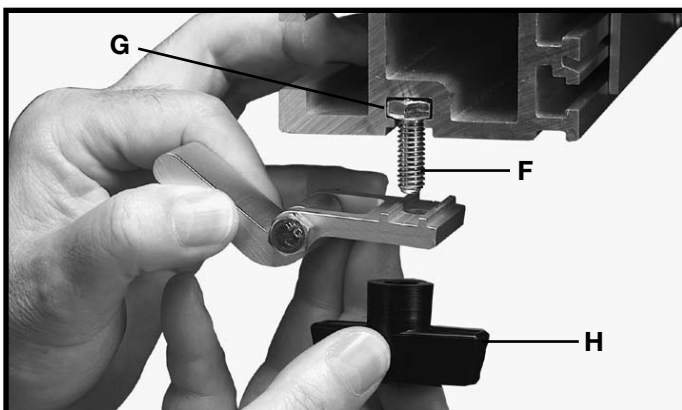

Fig. 65
2. The Rail Stop Assembly Fig. 65 can then be attached to the guide rail by inserting head of 5/16-18 (F) hex head bolt into T-Slot (G) positioning the stop assembly to the rail and tightening knob (H) finger tight.